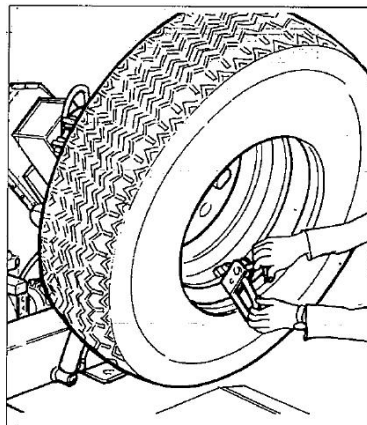

Fig.7.9
8) Remove the clip and replace it at 6 o'clock outside the second bead (See Fig.7.9).
- 10) Attach the clip at the bottom (6 o'clock) outside the second bead (See Fig.7.9).